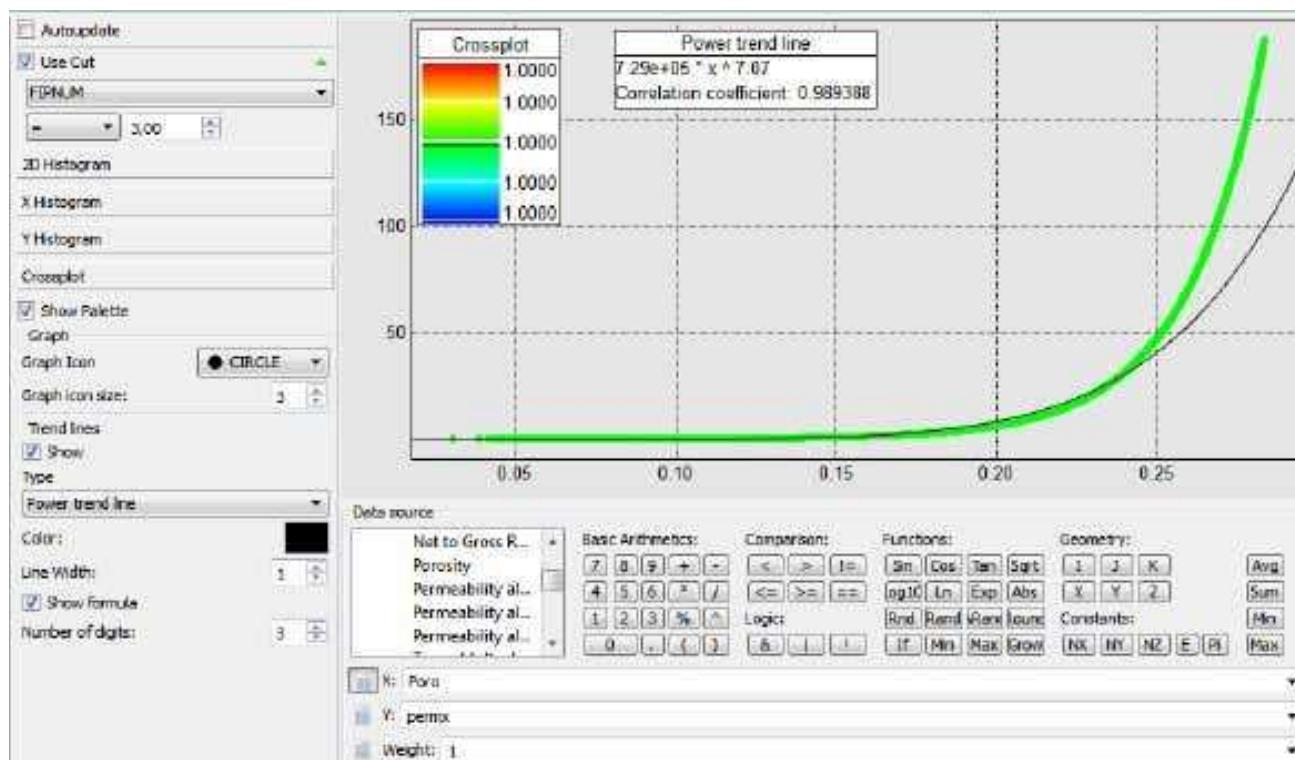

Figure 172. The crossplot for the 3rd FIPNUM region.
2. On the tab Crossplot check the check-box **Use Cut**. Select FIPNUM from the drop-down menu. The crossplot corresponding to the 3rd FIPNUM region will be shown, see the figure 172.